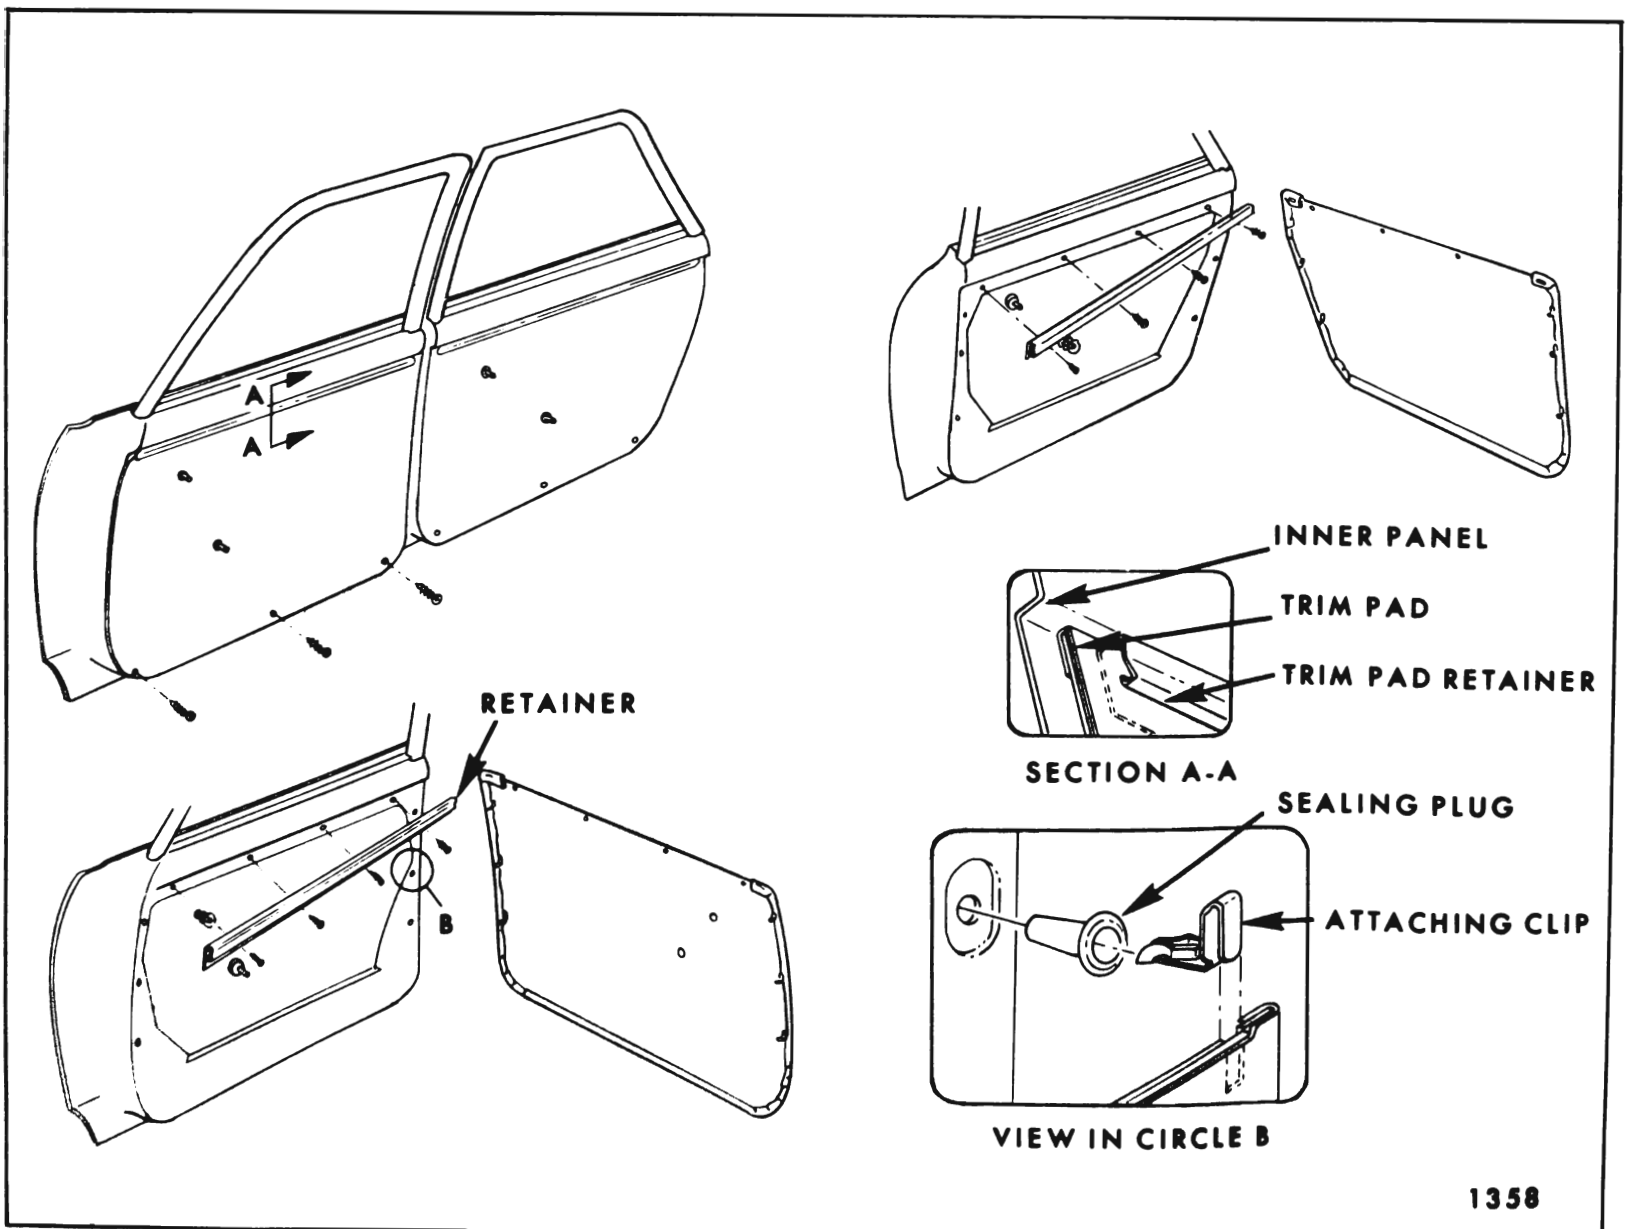

Fig. 7-17—Door Trim Pad Removal
There are two types of door trim pads utilized on all "A" bodies. On certain styles the front and rear door trim pad is secured to the door inner panel by trim pad retainers at top, retaining clips along both sides and screws at the bottom. Trim pad retainers are attached to the door inner panel by screws. The retaining clips (along sides) are pressed into plastic retainers or cups which fit into slots in the door inner panel. (Fig. 7-17).
- b. Carefully insert tool J-6335, or a suitable flat-bladed tool, between door trim assembly and door inner panel at retaining clip locations and disengage clips from retaining plugs. (See Fig. 7-17).